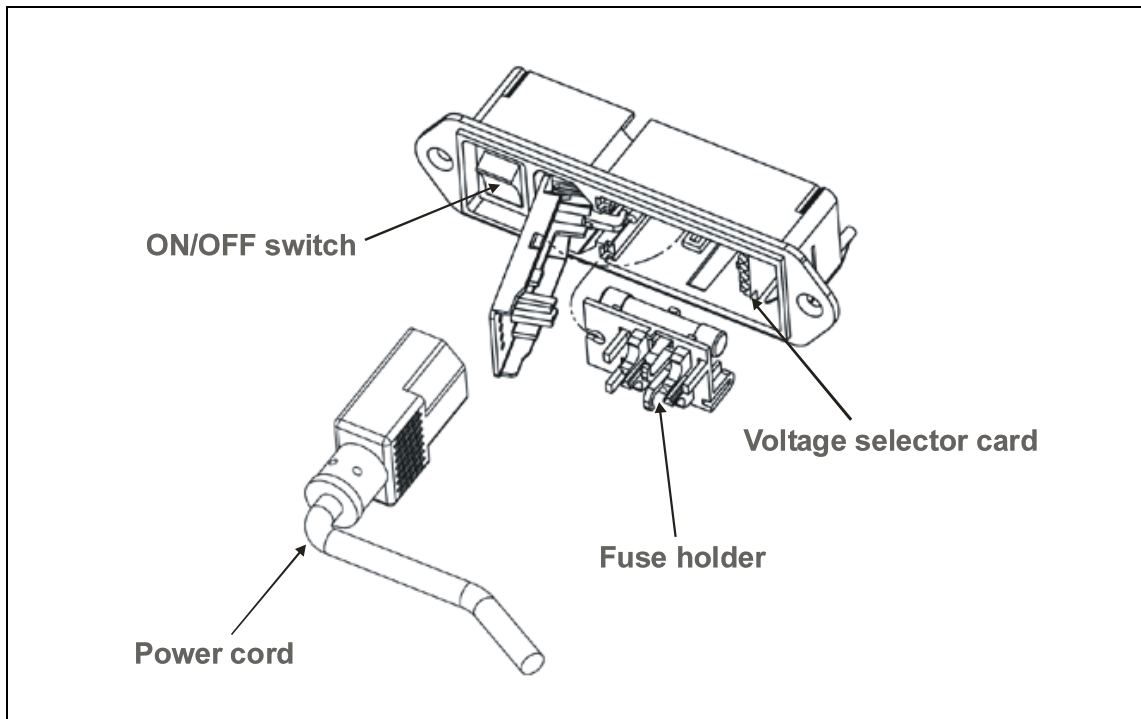

Figure 12: Power input module: accessing the voltage selector card and fuse holder
2. Insert a small pair of **needle-nose pliers** into the two holes on the cover of the power input module. Lift the cover open and swing it back toward the power cord socket (see **Figure 12** below).